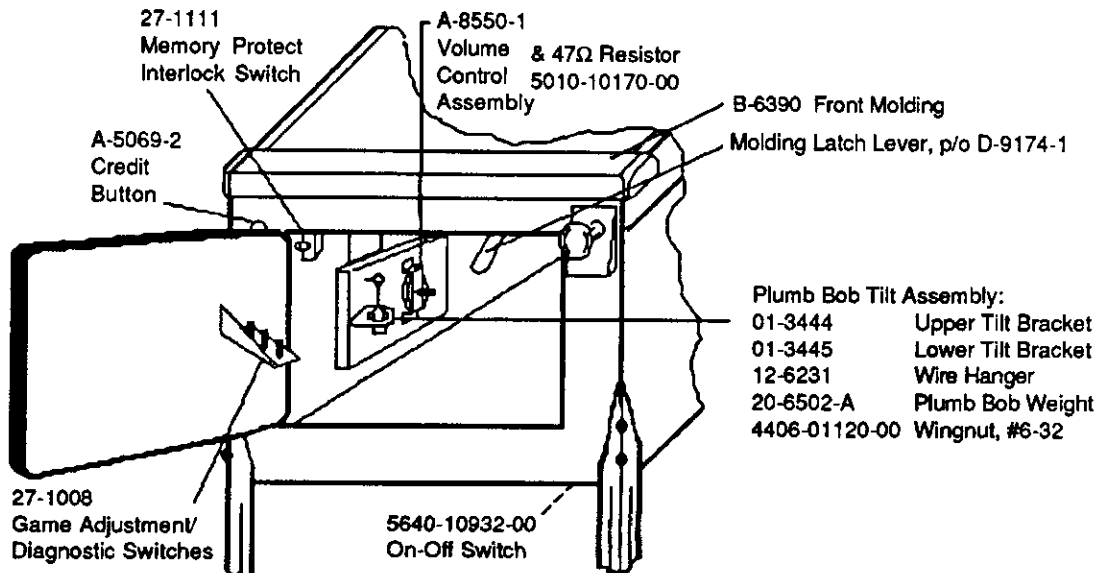

Figure 2. Pinball Game Controls Locations
Figure 2 shows the locations of the following switches, except for the last two (CPU and Sound Diagnostic switches, which are shown in the Backbox portion of Figure 1, along the left edge of the CPU Board).
7. Unlock and open the coin door. Locate the Molding Latch Lever (shown in Figure 2), and move the lever toward the left side of the game, to release the Front Molding. Lift the Front Molding off the playfield cover glass; return the Latch Lever toward the right, and close the coin door. *Carefully* slide the glass downward, until it clears the grooves of the Left and Right Side Moldings. Lift the glass up and away from the game, storing it carefully to avoid breakage.